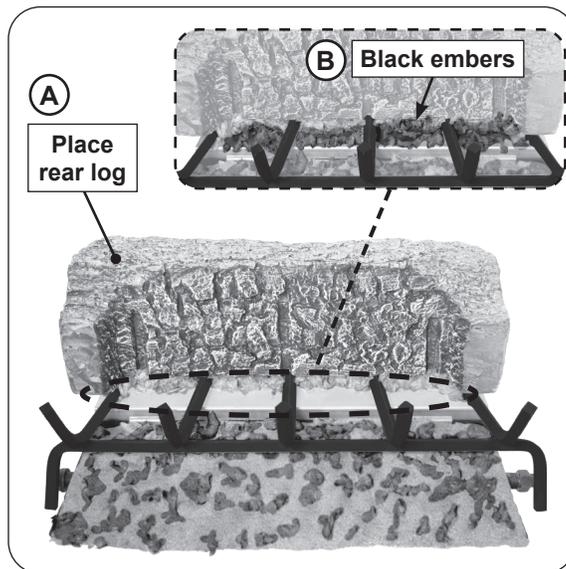

Fig. 2-2 Place rear log & fill panel w/ black embers
6. Center the fiber rear log onto the grate and shift it back to rest against the panel's rear tabs (see Fig. 2-2, A).
7. Sprinkle black embers lightly and evenly over the front remaining surface of the panel (see Fig. 2-2, B).